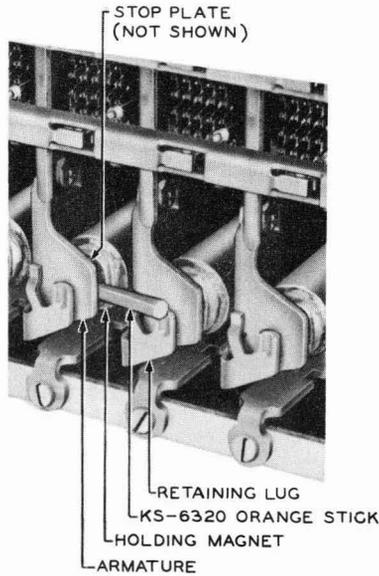

Fig. 17—Blocking 324- and Similar-type Switch Holding Magnets Nonoperated
3.19 **324-, and Similar-type Switches:** Fig. 17—Using a 1-1/2-inch length cut from the end of a KS-6320 orange stick, block the holding magnet nonoperated by inserting the flat end of the orange stick between the core and the holding armature with the other end of the stick resting on the retaining lug of the adjacent holding magnet stop bracket, as shown in Fig. 17. When blocking the holding magnet at the right-hand side of the switch nonoperated, place the flat part of the orange stick between the core and the holding armature at an angle of approximately 45 degrees above horizontal.